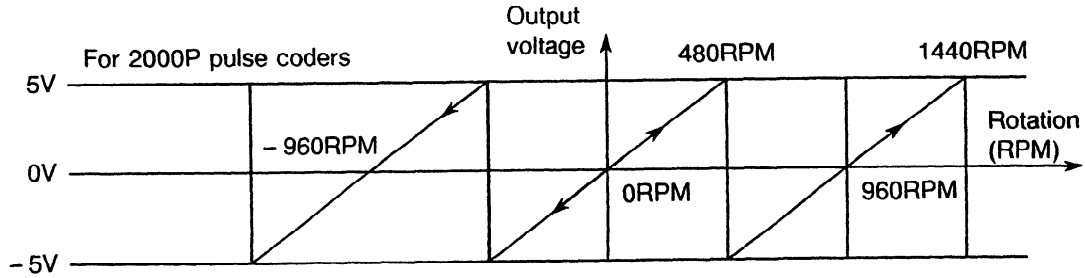

Fig. 6.6 (a) VCMD waveform
(3) The actual VCMD waveform is a $\pm 5V$ foldback waveform as shown in Fig. 6.6 (a) and therefore when the calculation value exceeds $\pm 5V$, add or subtract 10V, put back the $\pm 5V$ and compare the waveforms.